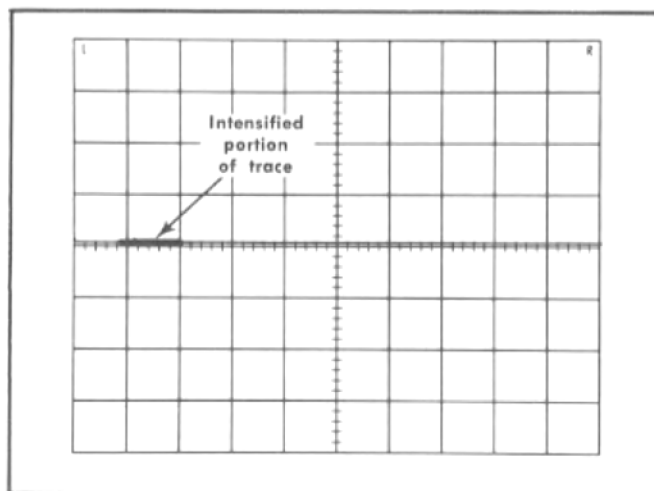

Fig. 6-29. Typical CRT display of delayed sweep intensification.
- c. Check—For an intensified portion of the display (fig. 6-29).